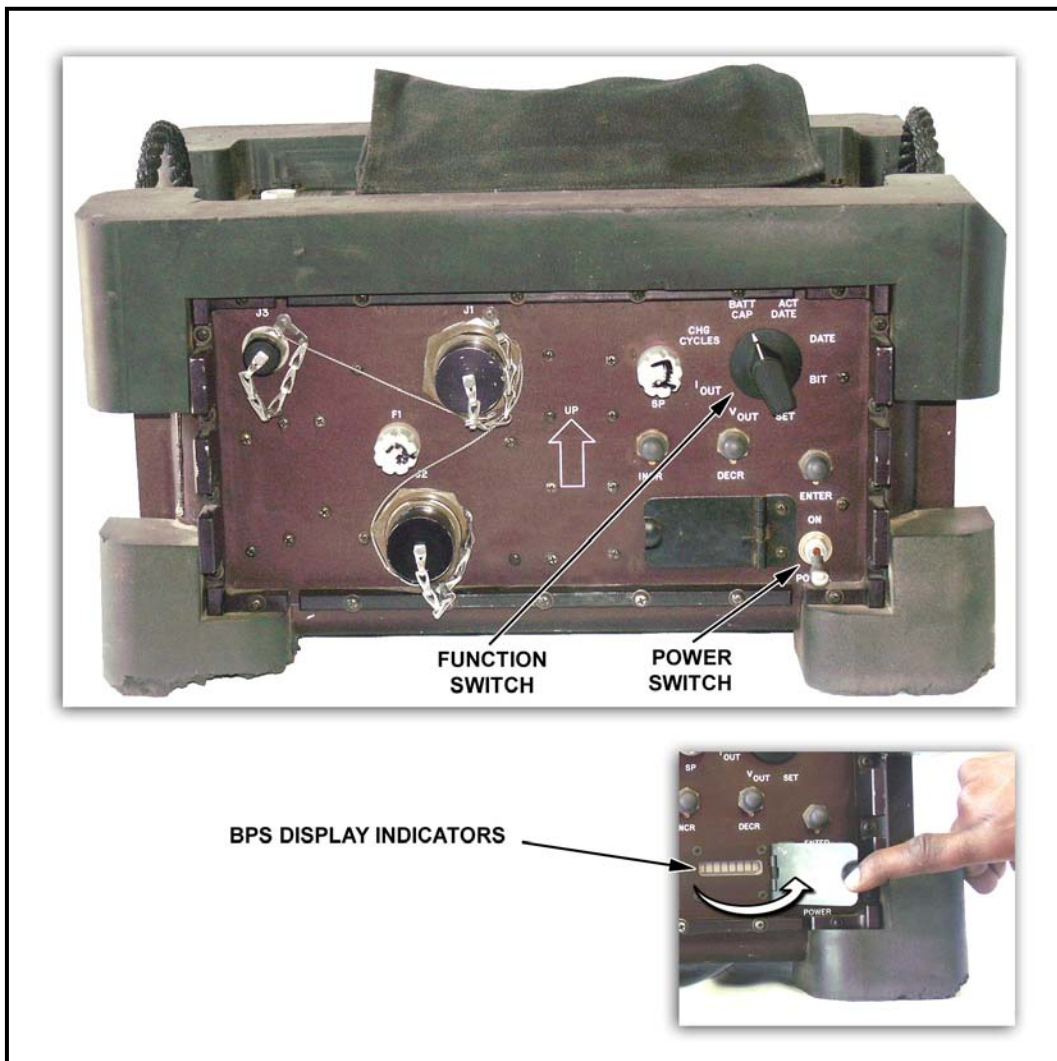

Figure 2-48. Battery power source controls and indicators.
DECR switch to decrease the brightness when the function switch is in any position except SET or BIT (Figure 2-48).
(1) **Function Switch.** The function switch controls what is displayed on the BPS display. The function switch is an eight-position rotary switch located in the upper right corner of the BPS (Figure 2-48).